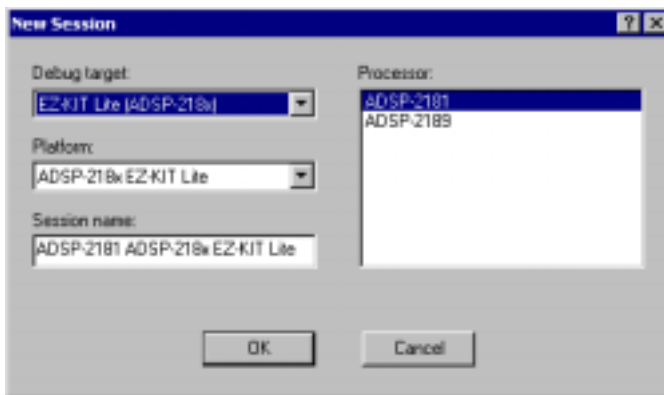

Figure 2-1. New Session Dialog Box
3. The **New Session** dialog box, shown in Figure 2-1, appears on the screen.